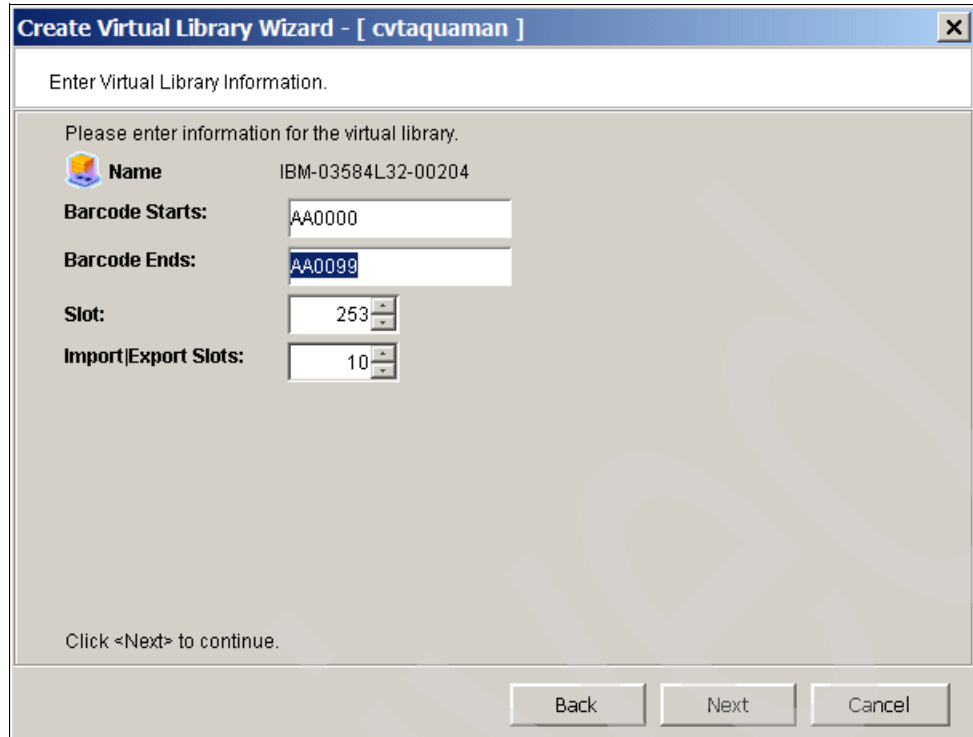

Figure 8-11 Specify barcode range for virtual cartridges
6. In the next panel (Figure 8-11), specify a volume range. This defines only the barcode range for the virtual volumes, but does not create the virtual volumes.